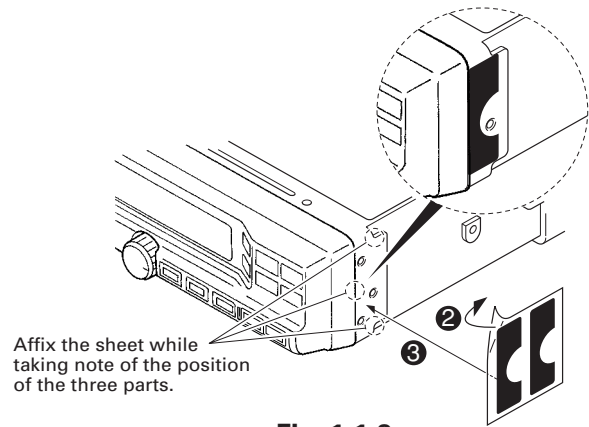

Fig. 1-1-2
4. Affixing the sheet (G11-4379-04) for the waterproof (Fig.1-1-2).
- (1) Remove the covering paper of the sheet (❷).
- (2) Affix the sheet while taking note of the position of the three parts as shown in Fig.1-1-2 (❸).